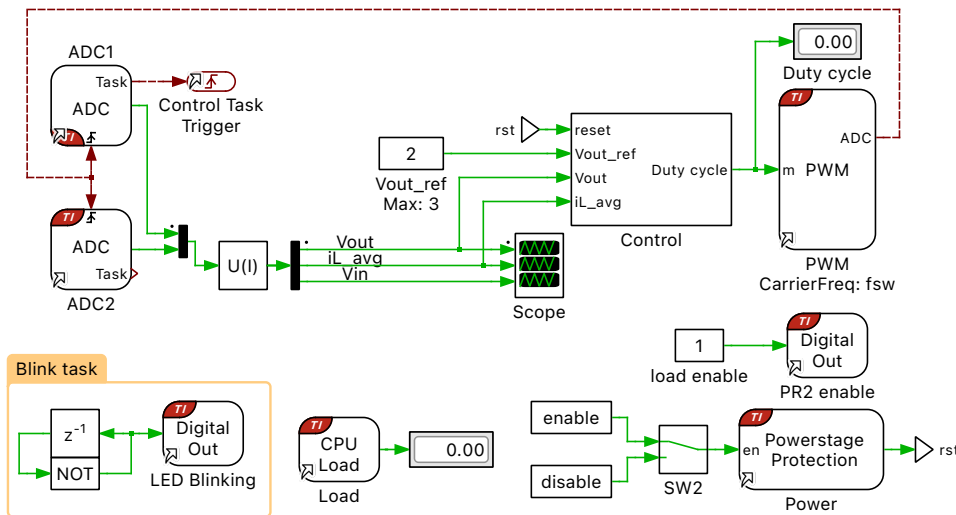
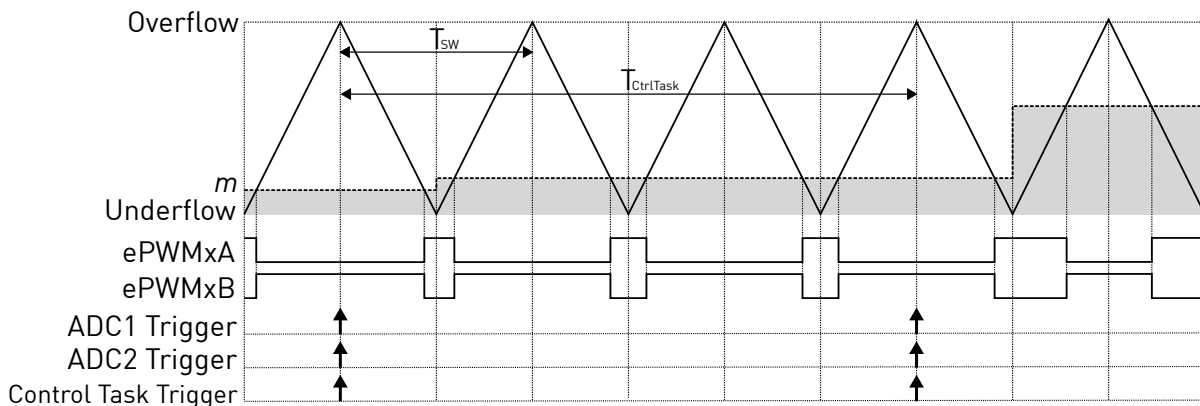

Figure 3: Controller of the BOOSTXL-BUCKCONV BoosterPack
Figure 5: PWM carrier, ADC and task interrupts
The controller subsystem is shown in Fig. 3. The key interface signals between the BOOSTXL-BUCKCONV, RT Box and the supported TI LAUNCHXL evaluation boards are described in Table 1.
- Control Task Trigger** In this model, the interrupt sequence of the embedded application is defined explicitly by connecting trigger signals between the PWM generator, the ADC, and the Control Task Trigger. Trigger signals are shown as red dashed lines as seen in Fig. 3. From the **Events** tab of the PWM block parameter window, the **ADC trigger** parameter is configured as **Overflow**, and the **ADC trigger divider** is set to 3 for the TI2837x and the TI28P650x, and 6 for the TI28004x MCUs. This means that the ADC start-of-conversion is triggered after set number of **Overflow** events. Fig. 5 shows the corresponding PWM carrier, ADC and task trigger, and PWM outputs for an **ADC trigger divider** set to 3.
By default, the C2000 target support package will only update the ePWM duty cycle register on PWM underflow and overflow events to prevent data corruption. In Fig. 5, note the delay between the task trigger and the instant when the duty cycle, m , is updated in the ePWM module. The control task is triggered by the ADC end-of-conversion, then the modulation index will update on the next underflow event after all ADC channels are converted and the control task is completed.